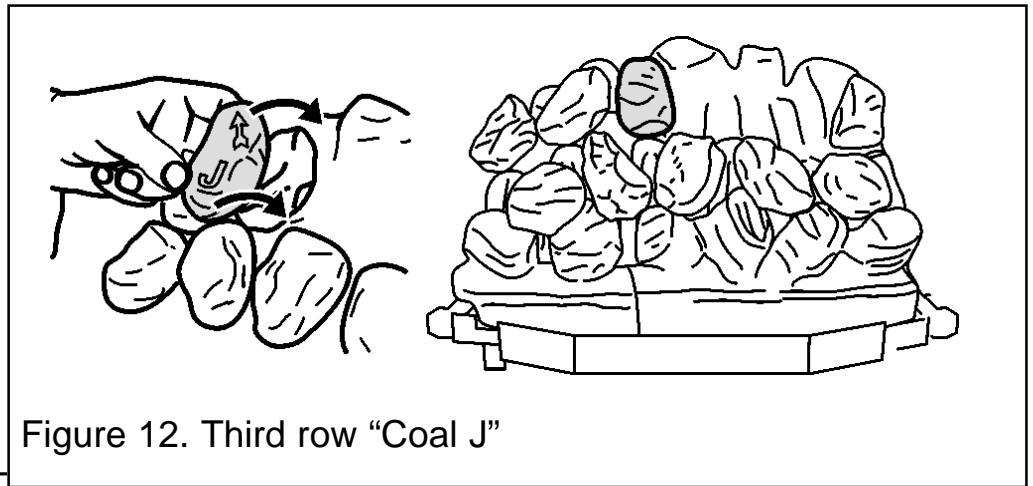

Figure 12. Third row "Coal J"
14. Hold coal 'J' upright with the arrow pointing to the top. Locate coal 'J' as shown in figure 12.